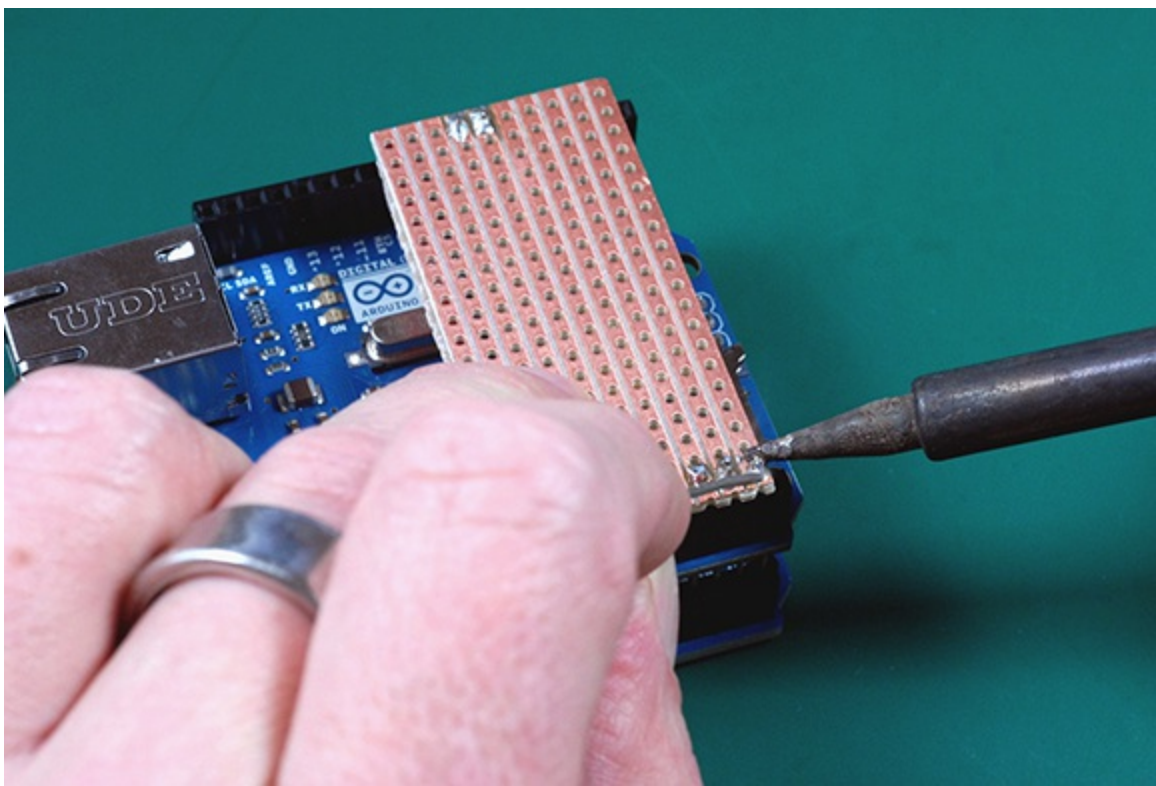

Figure 12-12: Soldering your pins in place.
4. Carefully solder the pins to the copper strips, as shown in Figure 12-12, making sure that you don't create a solder bridge between any of the strips of copper.